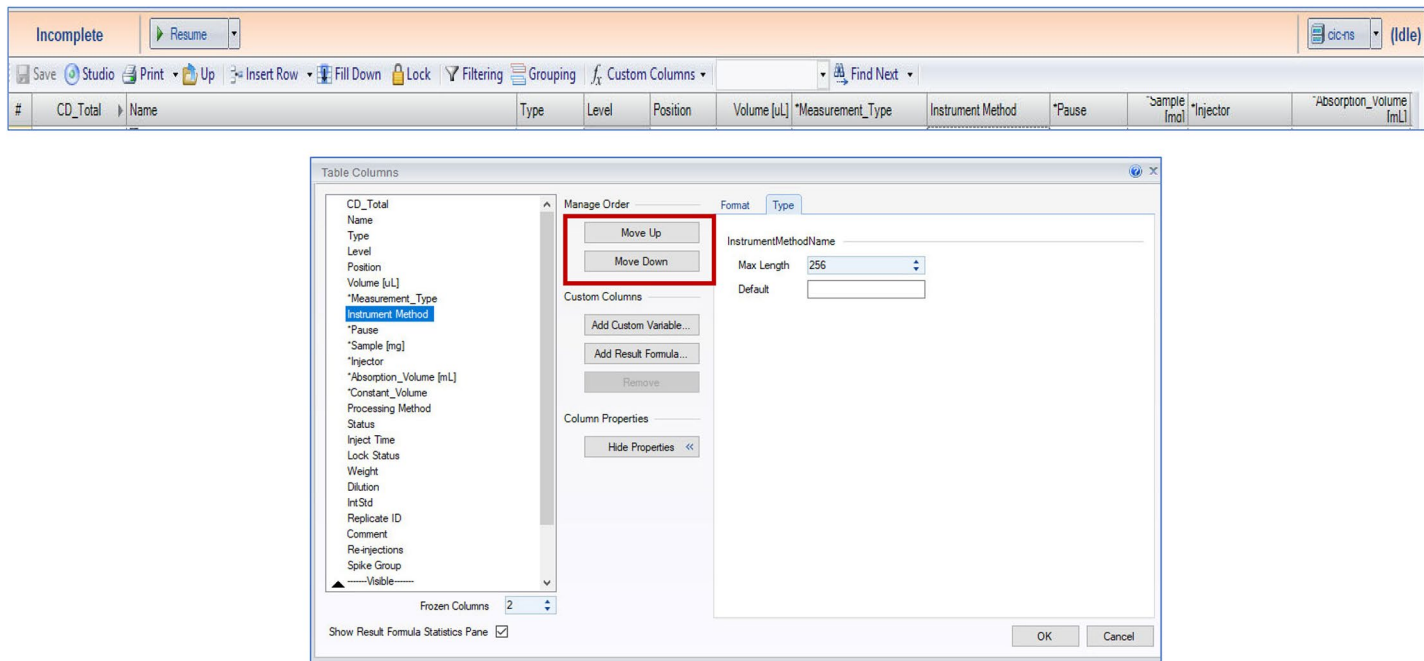

Figure 15. Organizing custom columns
8. Arrange the new custom columns. Select a column, right-click, and select *Table Columns*. Using the Move Up or Move Down buttons, position columns into the desired positions (Figure 15).